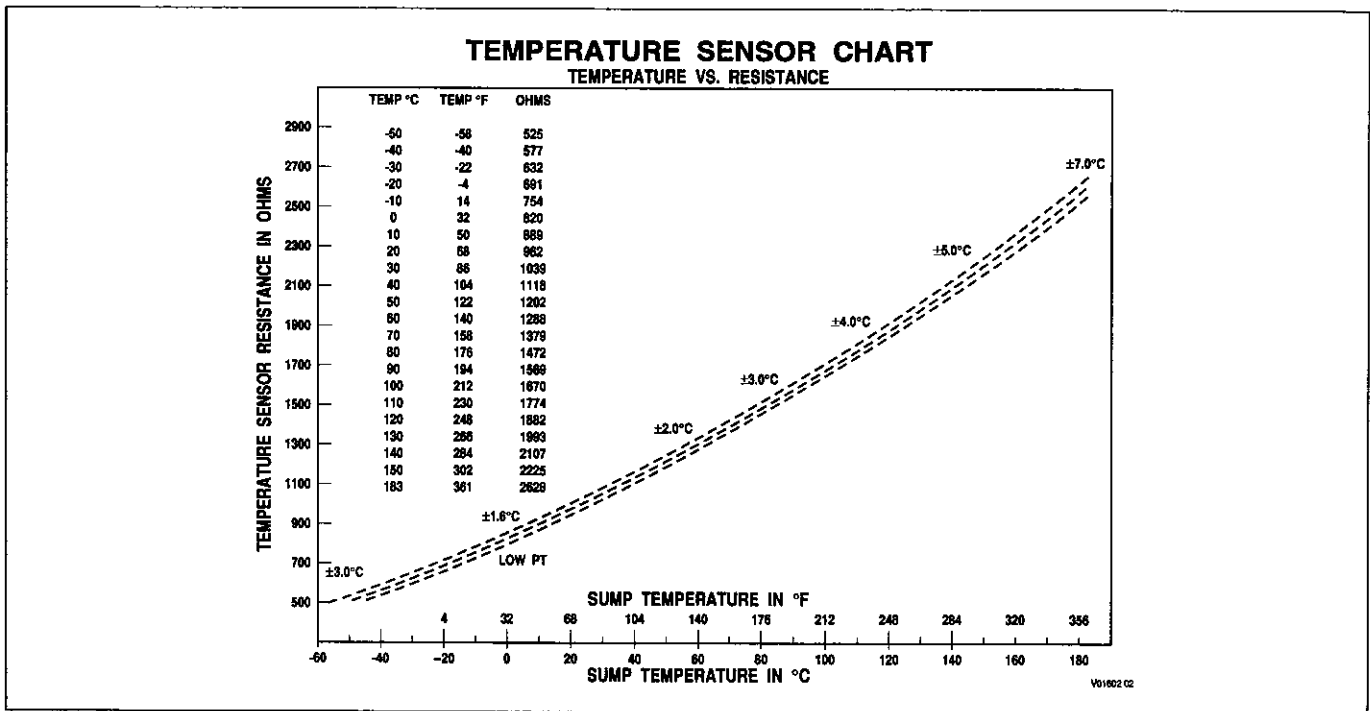

Figure 6-12. Temperature Sensor Chart
1. If possible, check the sump temperature with a DDR. Use the fastest sample rate available on the DDR. This is necessary to catch momentary changes due to an intermittent open or short to ground. If a DDR is not available, use the shift selector display to determine if the code is active (refer to Paragraph 6-2). Disconnect the transmission "T" harness at the ECU and check resistance of the sensor and compare with Figure 6-12.